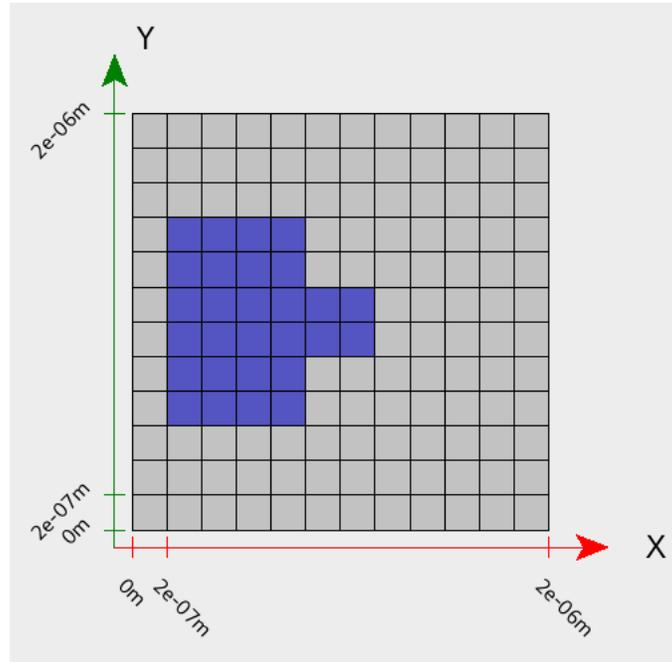

Figure 2: Seed Pattern
9. In the **Property Editor** for **BinaryPattern1**, set **Grid Size** to **12 by 12**. Then, create a pattern with which to seed the optimization by selecting cells on the grid. To select a cell, left-click it on the grid. To clear a cell, right-click it. The seed pattern used in this example can be seen in Figure 2. Once the pattern is created, click the **Assign as Parameters** button.